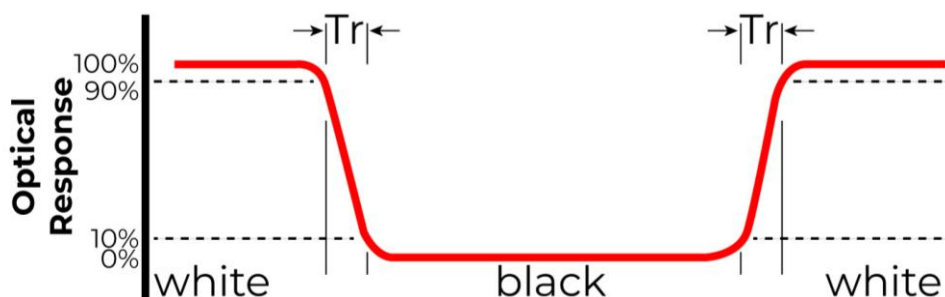

Figure 2. The definition of response time
**Note 1.** Contrast Ratio (CR) is defined mathematically as below, for more information see Figure 2.
**Note 2.** Surface luminance is the LCD surface from the surface with all pixels displaying white. For more information see Figure 2.
**Note 3.** The uniformity in surface luminance  $\delta$  WHITE is determined by measuring luminance at each test position 1 through 5 and then dividing the minimum luminance of 5 points luminance by maximum luminance of 5 points luminance. For more information see Figure 2.